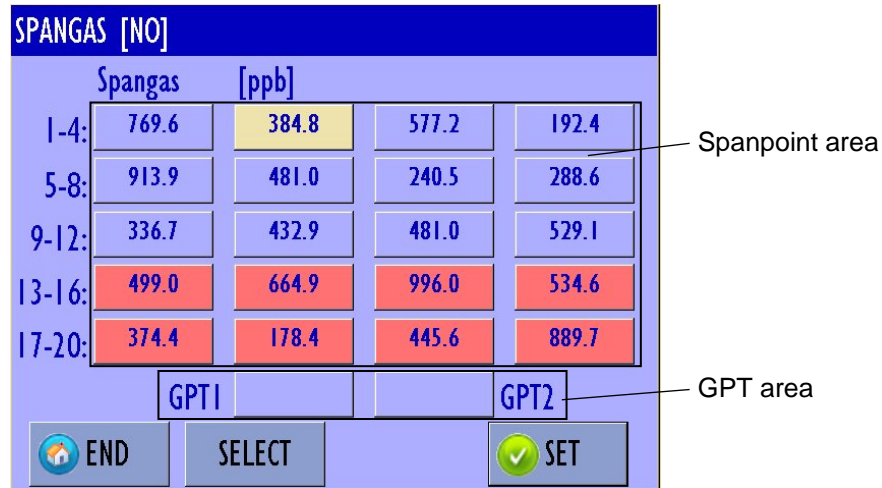

Fig. 6: Spangas screen
2. Touch the buttons **GPT1** or **GPT2** in the GPT area (refer to Fig. 6) to select the state wanted. The background color of the selected state becomes white. For deselect the state touch the white button again.